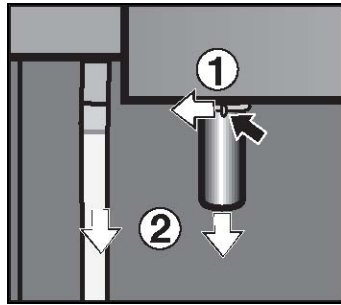

Figure 3-15: Froth Dispenser Removal
1. Turn the cover above the spout to the left. See Figure 3-15, Item 1.
2. Pull the froth dispenser out of the machine, holding it by the spout and the intake hose. See Figure 3-15, Item 2.